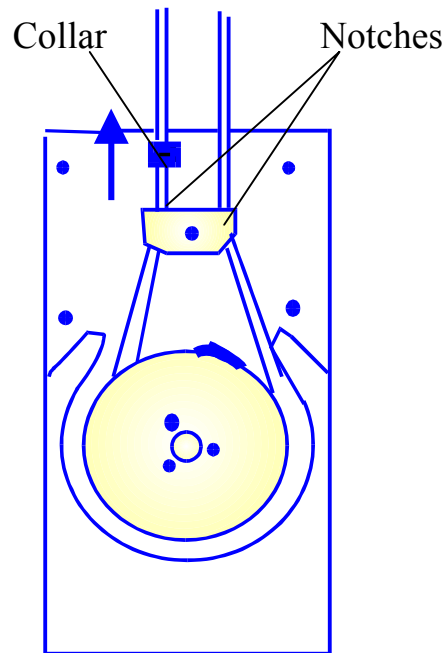

Figure 6-10: Removal of the pump tube
-  Pull up the tube and lift the collar from the notch. Refer to Figure 6-10.